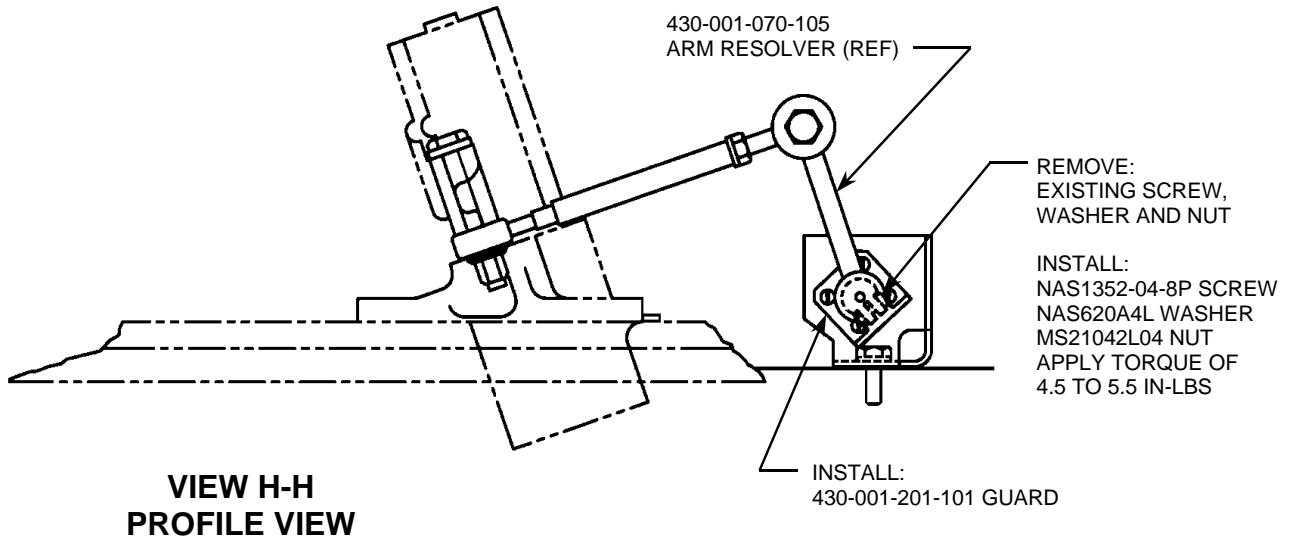

FIGURE 4
12. Move the arm, P/N 430-001-070-105, to allow the removal of the pitch control position resolver. (Figure 4).
13. Remove the four screws and eight washers securing the pitch control position resolver to the mounting bracket, and remove the resolver. (Figure 4).
15. Secure the guard and the control position synchro to the mounting bracket, using qty 4 screws, P/N MS35265-13 and qty 8 washers, P/N NAS620A4L. Safety the screws, using lockwire (C-508). (Figure 4).
16. Secure the pitch control position synchro arm to the shaft of the pitch control position resolver, using a screw, P/N NAS1352-04-8P, a washer, P/N NAS620A4L, and a nut, P/N MS21042L04. Torque the screw to a value of 4.5 to 5.5 inch pounds. (Figure 4).